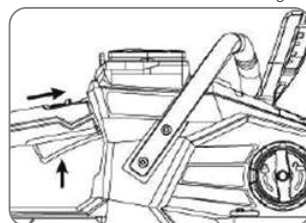

Fig. 2b
- Push forward the lock-off button and hold the trigger switch so that the chain saw is started (see fig. 2b).